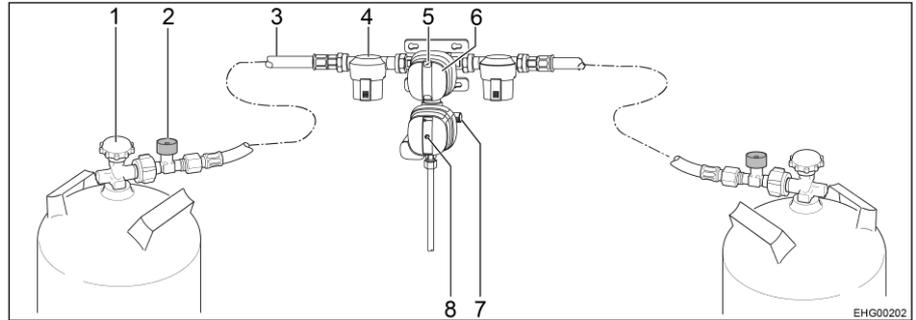
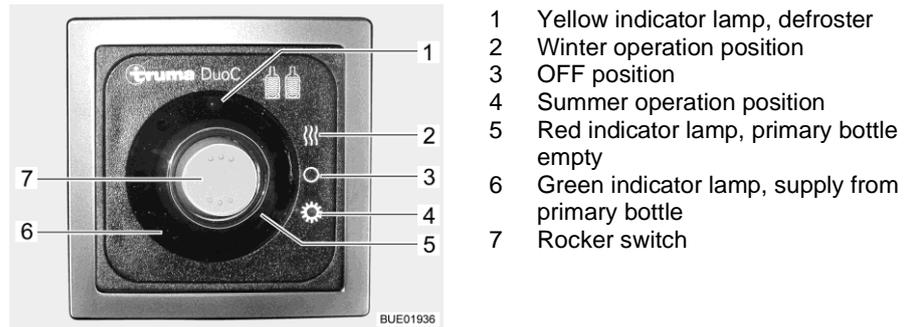

Fig. 84 Safety gas pressure regulating system DuoControl CS
Fig. 85 Operating unit (DuoControl)
The DuoControl regulating system consists of a reversing valve and a crash sensor. The DuoControl regulating system is installed between the high-pressure hoses (Fig. 84,3) with hose break guard (Fig. 84,2). The knob (Fig. 84,6) on the reversing valve is used to select which of the gas bottles is to be used as primary bottle and which is to be used as reserve bottle.
The status of the gas supply is indicated in the inspection window (Fig. 84,5):
The crash sensor blocks the gas supply in the event of a significant impact (e.g. accident). The situation of the yellow reset button (Fig. 84,8) indicates the operating status of the crash sensor:
- If the yellow reset button (Fig. 84,8) is in the pressed-in position, the crash sensor is ready to operate.
- If the yellow reset button (Fig. 84,8) is protruding, the crash sensor is **not** ready to operate. Putting into operation, see below.
The hose break guard (Fig. 84,2) blocks the gas flow if the connected hose breaks. The hose break guard must be activated by pressing the green button.
The operating unit shows the status of the primary bottle. When the green indicator lamp (Fig. 85,6) illuminates, the primary bottle is full. When the red indicator lamp (Fig. 85,5) illuminates, the primary bottle is empty. In this case, the reserve bottle is used for the gas supply.
If the heater of the DuoControl regulating system (defroster) is active, the yellow defroster indicator lamp (Fig. 85,1) is lit.
In addition, the operating unit (Fig. 85) is also used to set summer operation or winter operation.
- Press lower part of the rocker switch (Fig. 85,7) (summer operation position (Fig. 85,4)).
- Press upper part of the rocker switch (Fig. 85,7) (winter operation position (Fig. 85,2)).
- Use the knob (Fig. 84,6) on the reversing valve to select the gas bottle which is to be the primary source of gas (primary bottle). Always turn the knob as far as it will go.
- Open regulator taps (Fig. 84,1) on the gas bottles.
- Press and hold the green button of the hose break guard (Fig. 84,2) for about 5 seconds. The green marking is shown in the inspection window (Fig. 84,5).
- If the crash sensor has triggered (the yellow reset button (Fig. 84,8) is protruding):
Press the yellow reset button (Fig. 84,8) in forcefully, turn it slightly in a clockwise direction and hold it for about 5 seconds. Make sure that the reset button remains in the pressed-in position ("ready for operation"). If it is not possible, reset the system as described: Use the Torx insert T20 on the included screwing aid to strengthen the rotary movement.
- Set the rocker switch (Fig. 85,7) to the OFF position (Fig. 85,3). The indicator lamps go out.
- Close regulator taps (Fig. 84,1) on the gas bottles.
If the green indicator lamp (Fig. 85,6) goes out during operation and the red indicator lamp (Fig. 85,5) lights up, the primary bottle is empty and must be changed. The red marking is shown in the inspection window (Fig. 84,5) of the associated gas bottle. The reserve bottle continues supplying the gas appliances with gas.
- Turn the knob (Fig. 84,6) as far as it will go in the direction of the gas bottle currently used. In this way, this gas bottle is the primary bottle now, and the empty gas bottle becomes the reserve bottle. The marking in the inspection window (Fig. 84,5) changes from red to green.
- Close regulator tap (Fig. 84,1) on the empty gas bottle. Pay attention to the direction of the arrow.
- Press the green button of the hose break guard (Fig. 84,2).